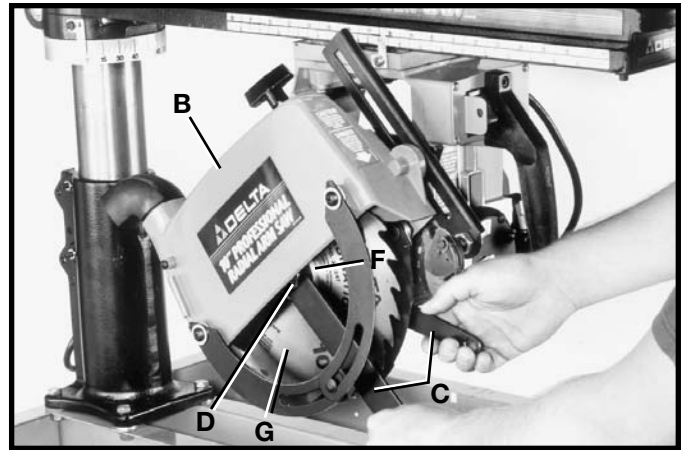

Fig. 12
3. With wrenches supplied (C) Fig. 12, loosen arbor nut (D) as much as possible. **NOTE: Arbor nut has left hand threads.**
4. Lift cam (E) Fig. 13, which holds the blade guard (B) Fig. 12, in position and move the blade guard (B), outer blade flange (F), and blade (G) outward.